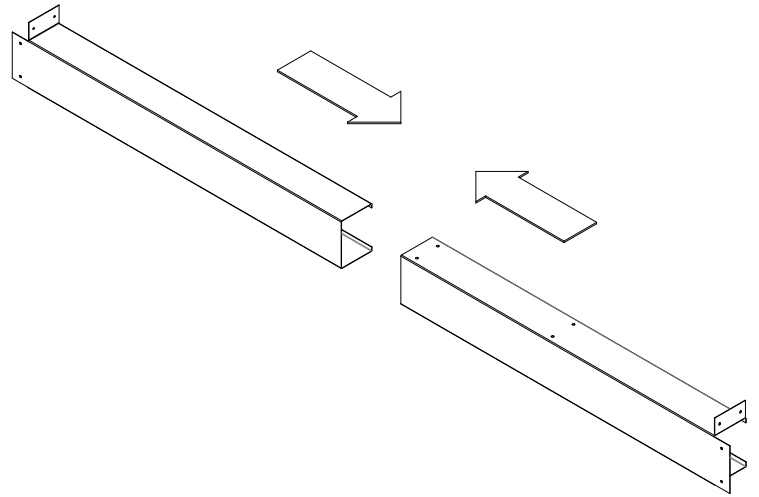

Figure 27: Steel Stud Assembly
1. Take the two steel stud pieces and slid them into each other. The flanges of each piece should be at the end of the assembly, as well as facing upwards as shown in Figure 27.